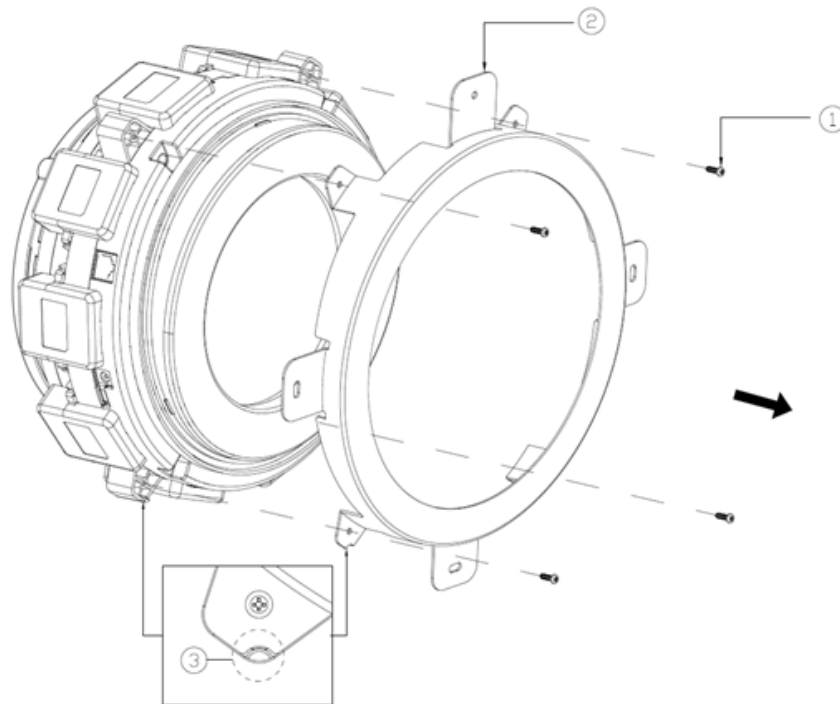

Figure 4-1
(4) Remove the Metal Plate Support
As shown in Figure 4-1, remove 4 screws ① from the front of the scanner, and remove the metal plate support ② (RVM100-MPS).